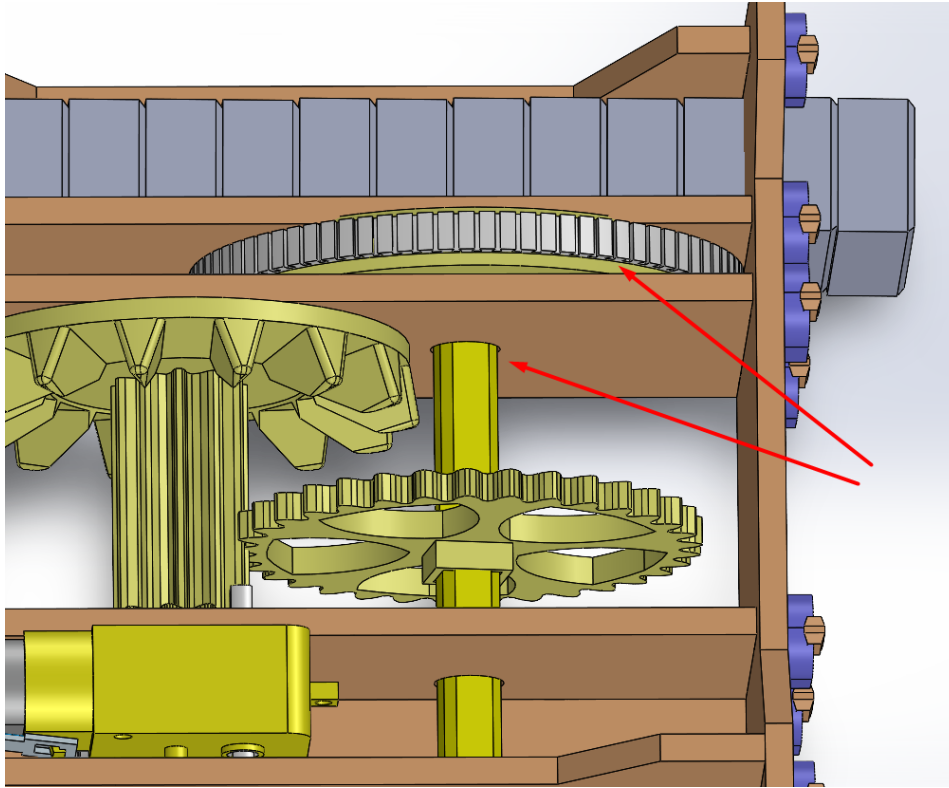

FIGURE 18
STEP 14: before we finish inserting the axis, we will place the first wheel between the two walls close to each other, then we push the axis through as in figure 18.